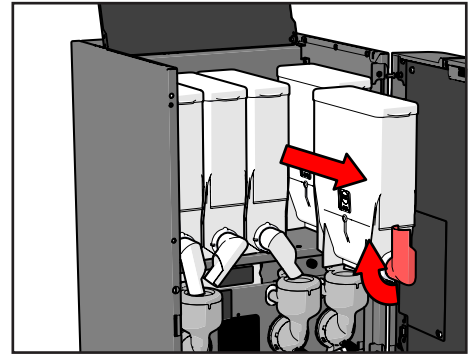

Figure 50.
3. Turn up the spouts of the instant containers and remove the canister from the machine (see Figure 50).